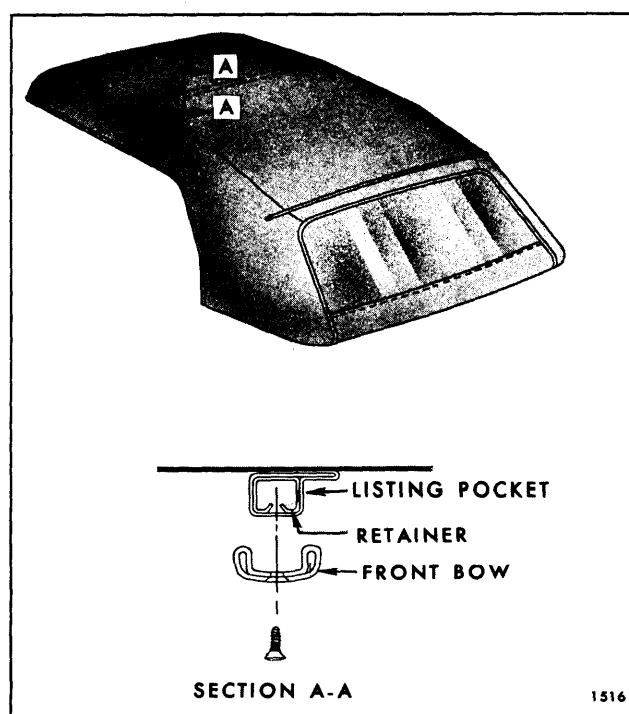

Fig. 13-3—Listing Pocket Retainer
8. At underside of front bow, (Fig. 13-3) remove screws securing listing pocket retainer to front bow. Disengage retainer from bow and remove retainer from listing pocket. Note location of screws before removal.
7. At underside of front roof bow, remove screws securing listing pocket retainer to bow (Fig. 13-3).